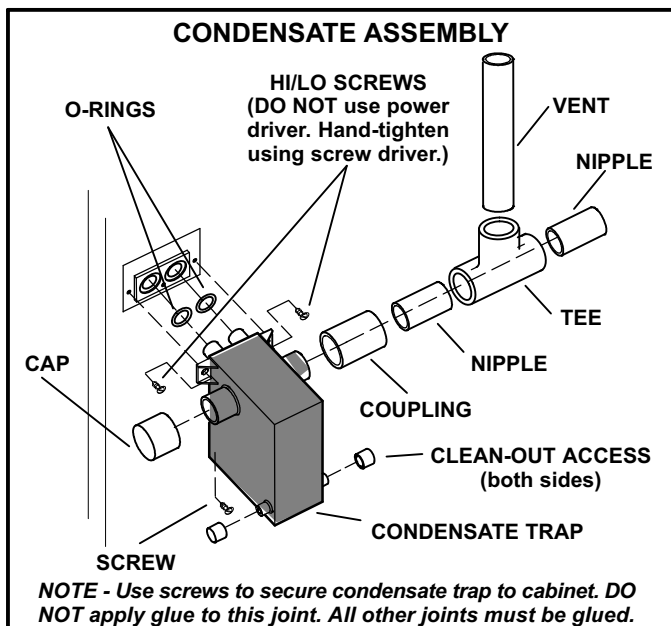

FIGURE 39
- Install condensate trap onto the condensate collar. Use provided HI/LO screws to secure two upper flanges of the trap to the collar. Use provided sheet metal screw to secure bottom trap flange to side of unit. **DO NOT apply glue to secure condensate trap to cabinet.** All other joints must be glued. See figure 39.